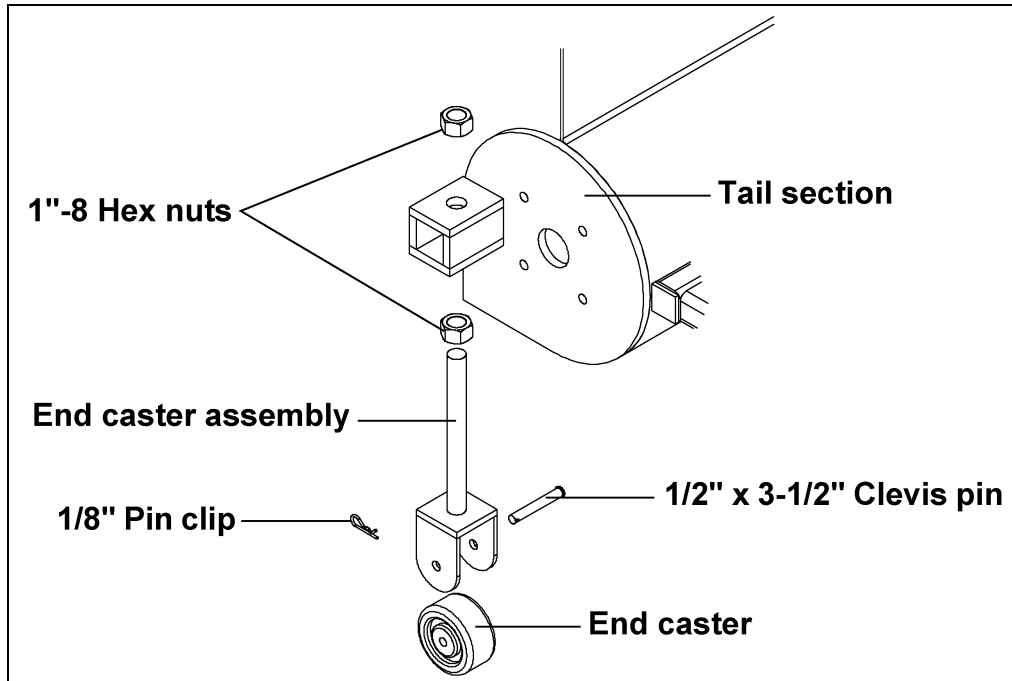

Figure 5A
- B. (*All 16" Models and 12" Models with extensions*) Assemble the end caster to the end caster assembly using the 1/2" x 3-1/2" clevis pin and 1/8" pin clip as shown in Figure 5A.
- C. Attach the end caster assembly to the end of the tail section using two (2) 1"-8 hex nuts.